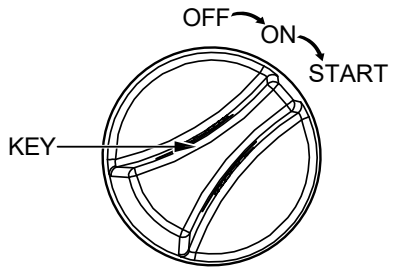

Figure 21. Ignition Key Switch (Start)
- Insert the ignition key into the ignition switch (Figure 21). While keeping your foot **off** the foot switch, turn the ignition key **clockwise** to the **START** position. Once the engine starts, release the ignition key.